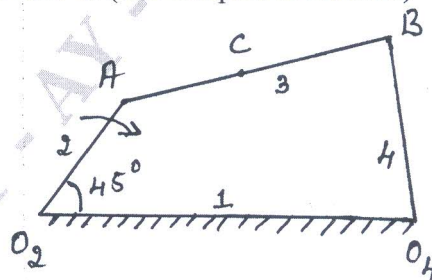

Fig Q3(b)
- b. The Fig Q3(b) shows a four bar mechanism crank  $O_2A$  rotates at 200rpm and an angular acceleration of  $150\text{rad/sec}^2$  at an instant when the crank makes an angle of  $45^\circ$  to the horizontal. Find the acceleration of points B and C, and angular velocities and angular acceleration of link 3 and 4. (use Graphical method)